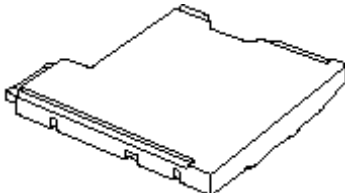

Figure 1-5 Weight Saver (for Detachable Bay only)
- **Weight Saver bay device (located in the accessories box).** (Figure 1-5.)